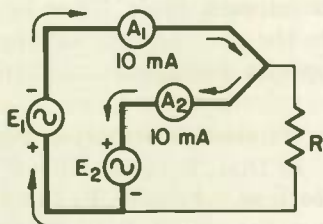

Fig. 11
5. Zero . . . Since I_1 and I_2 are out of phase, A_3 reads the difference between the two: $10\text{ A} - 10\text{ A} = 0\text{ A}$. Figure 11 shows that you then have a simple series circuit with E_1 and E_2 in series forcing 10 mA around the circuit.